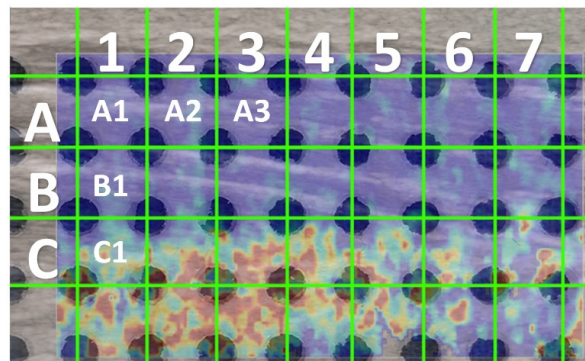

Figure 3: Labelling of squares in grid.
- ROI Selection: To view only the SWE image. This activates the drawing tools (I), enabling the user to manually draw on the image to define a ROI.
- I. ROI selection tools activated by selecting 'ROI Selection' radio button (G). Selecting the square enables the user to draw directly on the image viewer (N), which displays the SWE image only. Once the user is satisfied with the drawing, selecting OK saves the region. The defined region is then displayed in the image viewer (N). If the user is not satisfied with the selected region, the refresh button resets the SWE image, allowing the user to redefine a region. Only one ROI can be defined per clip in this way. This ROI is kept consistent throughout the whole clip/the range of frames that was selected (E).
Exporting can only be done if a directory for the output has been selected (A). If a folder containing multiple files is imported (C), the button exports multiple excel files in the chosen directory. If only one file is imported (B), one excel table is saved in the directory. If in (G) the user has selected the 'ROI Selection' radio button, the chosen region of interest is analysed and results are saved. For all other radio button options, a grid analysis is executed and results saved in the excel file where each square is analysed and labelled according to Figure 3.